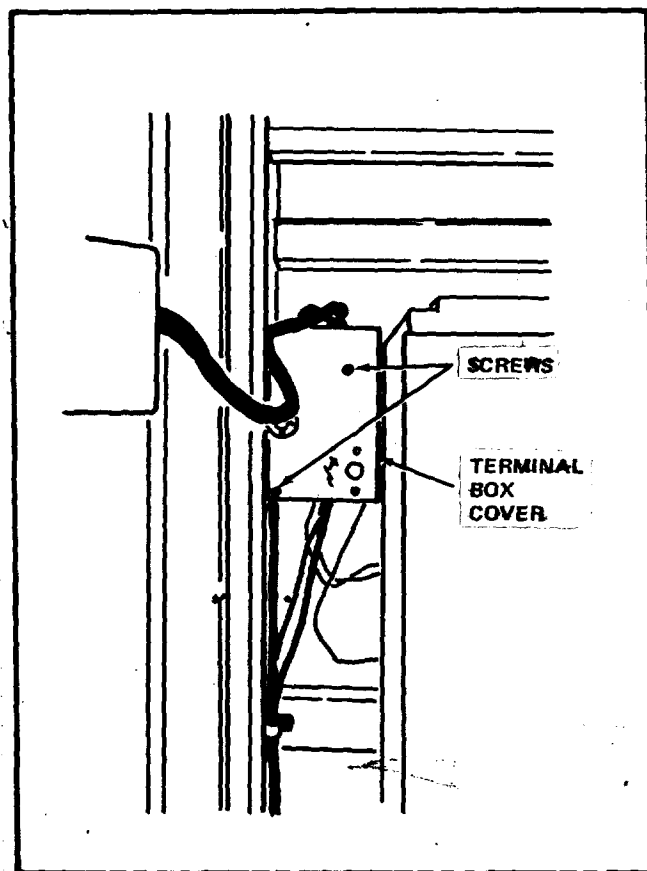

FIGURE V-1
- A. Remove the two Screws which attach the Terminal Box Cover in the Merchandiser. See Figure V-1.